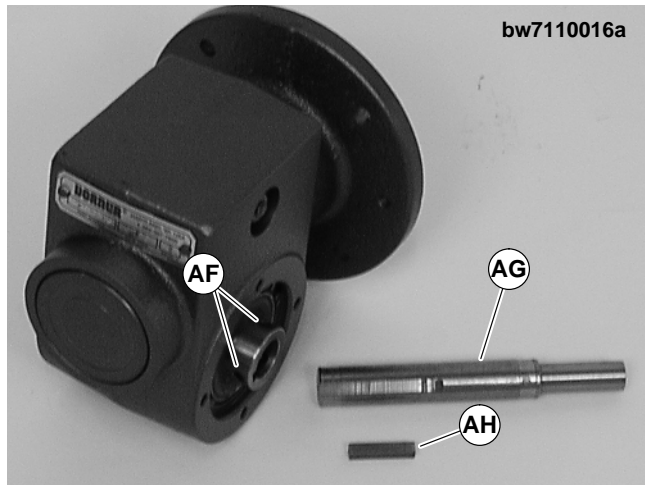

Figure 17
- Loosen six (6) set screws (AF of Figure 17). Remove drive shaft (AG) and key (AH).
- Replace the original shaft components into new gear reducer (see Figure 17). Tighten set screws (AF) to 26 in-lb (3 Nm).